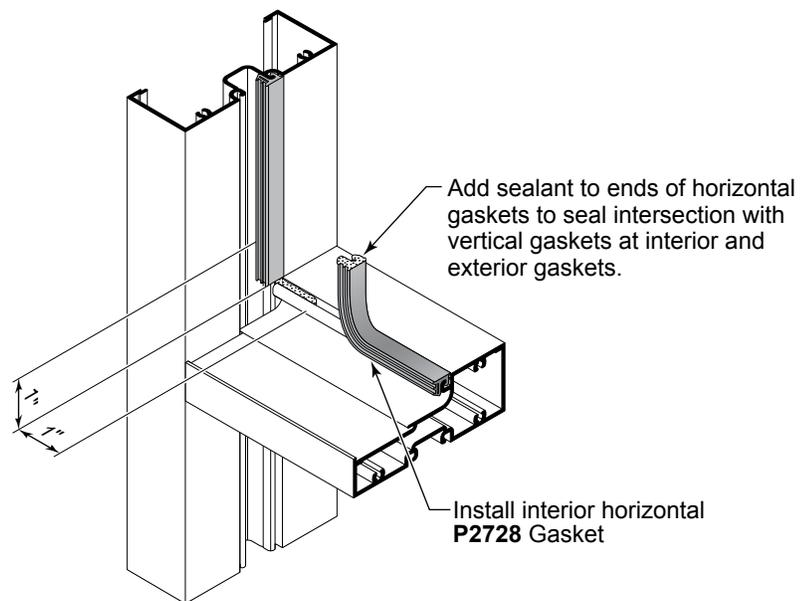

Fig. 36.2
- F. Install the interior horizontal gaskets at each end and work toward the center, firmly pushing the gasket in place as shown in **Fig. 36.2**.